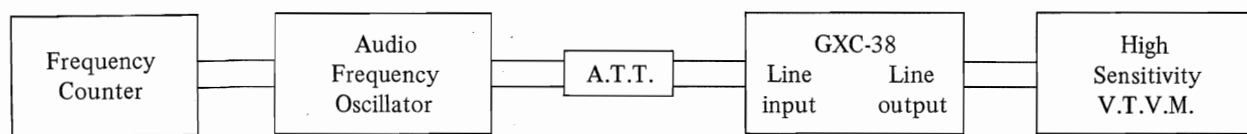

Fig. 29
- a) Connect the various measuring instruments as shown in Fig. 29.